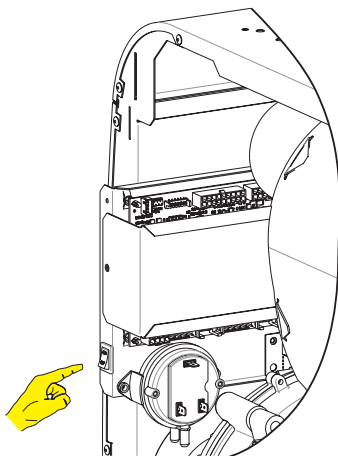

Figure 54
- B. Turn on the main electrical power to the wall furnace and turn on gas valve power switch. **See Figures 54 and 55.**